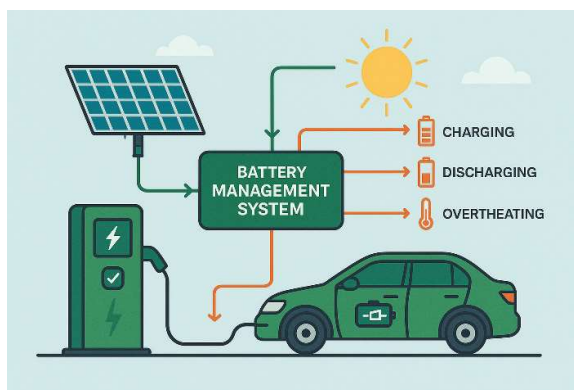

Fig. 3.16: Battery Management System (BMS)
13. Battery Management System (BMS): The BMS monitors and controls battery charging and discharging to ensure safety, efficiency, and battery longevity. It prevents overcharging, overheating, or damage to the battery, as shown in Fig. 3.16.